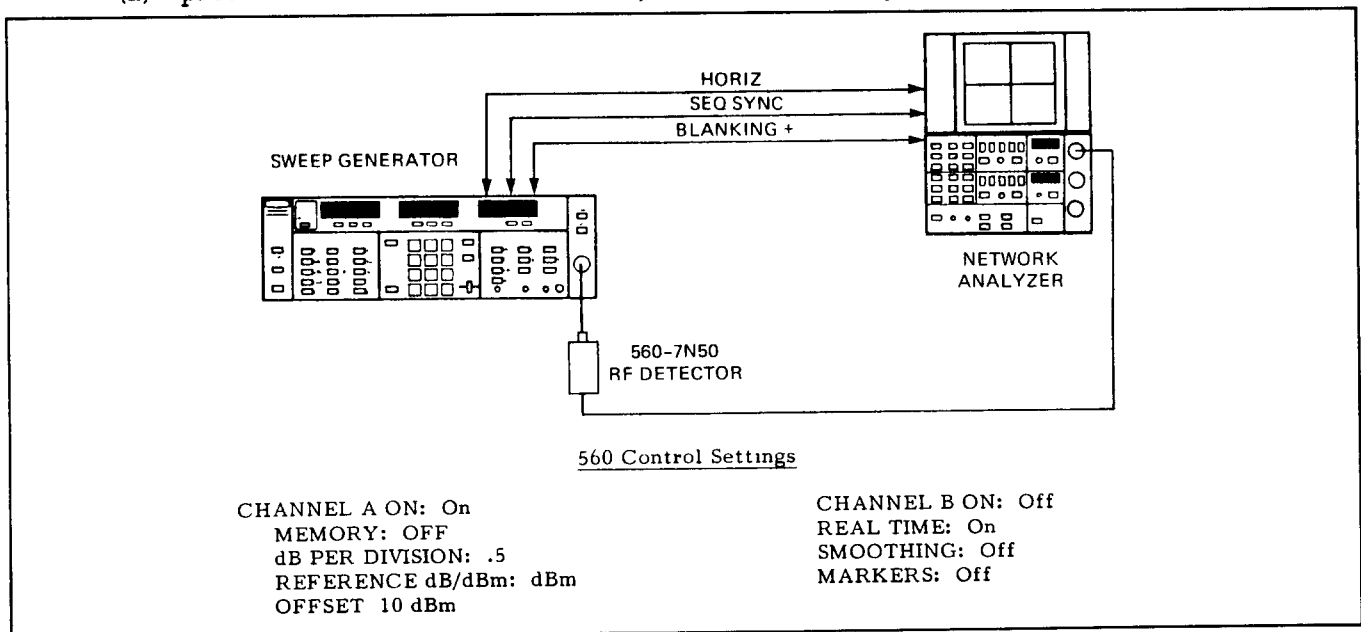

Figure 5-41. Test Equipment Setup for Detector-Tracking Adjustment
1. Set up the test equipment as shown in Figure 5-41, and turn the equipment on.